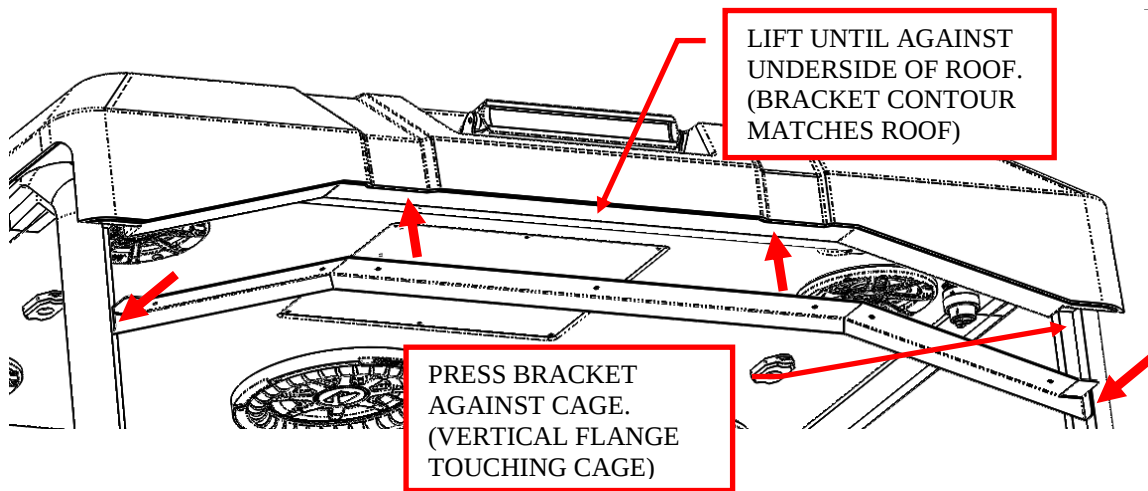

Figure 19: Move the windshield bracket into position.
1. Raise the windshield bracket into position against the underside of the roof along the back edge. Make sure the horizontal flange of the bracket is pressed against the bottom edge of the roof and the vertical flange of the bracket is pressed against the vertical flange on the back of the cage. See Figure 19.